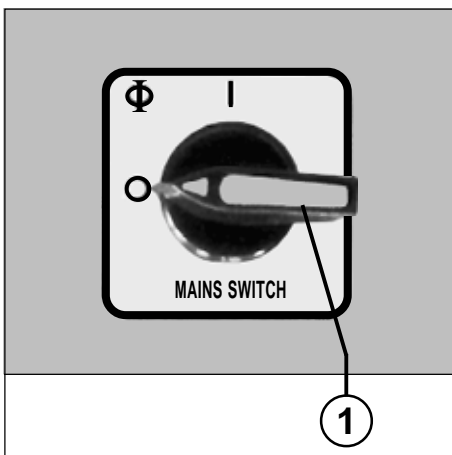

fig. 1
1. Move the main switch (1) (fig. 1) to position „1“.
OPERATING FUNCTIONS (Figs. 1, 2 and 4):
- 1 = Mains switch (Emergency-stop) (fig. 1)**